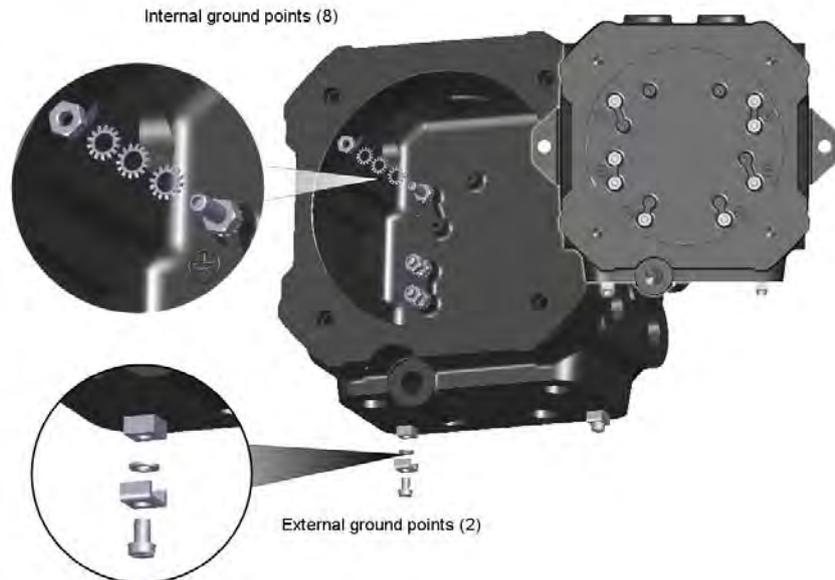

FIGURE 3-21
- External (2) and internal (8) ground points (see FIGURE 3-21).